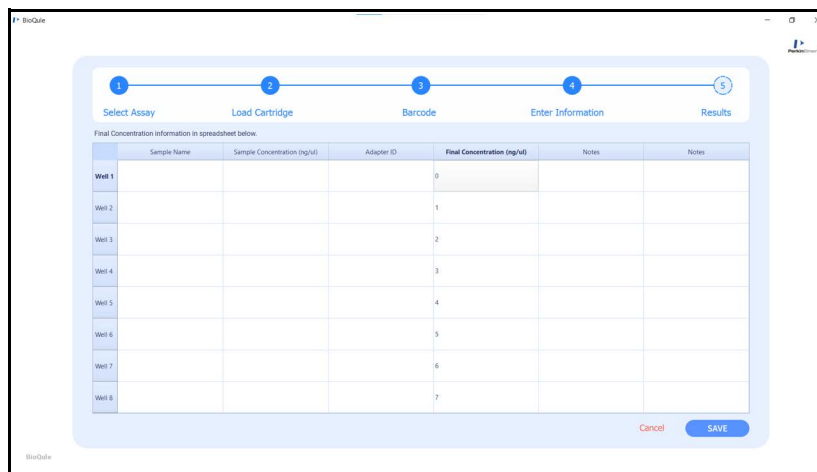

Figure 23. Results Window
- 1 After the run is complete, the Results window displays the **Final Concentration** of each sample as shown in Figure 23. The Final Concentration is calculated using the BioQule optics.